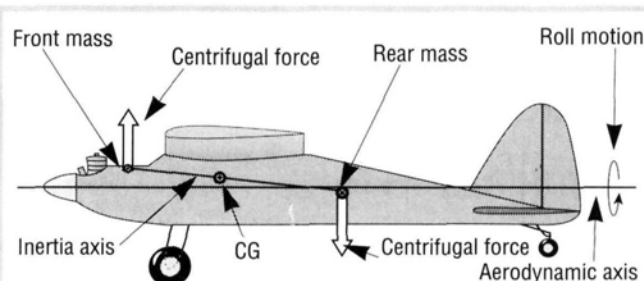

Figure 4.2. Side view of "Cloud-Niner" showing estimated aerodynamic and inertia axis.
- the inertial axis through the CG, joining the two element masses (see Figure 4.2).
However, if the inertial axis is inclined to the aerodynamic axis, as in Grant's theory, rotation about the aerodynamic axis will create centrifugal forces that, through the action of inertial forces, cause a pitching moment. This is "inertial roll coupling" (see Figure 4.2).